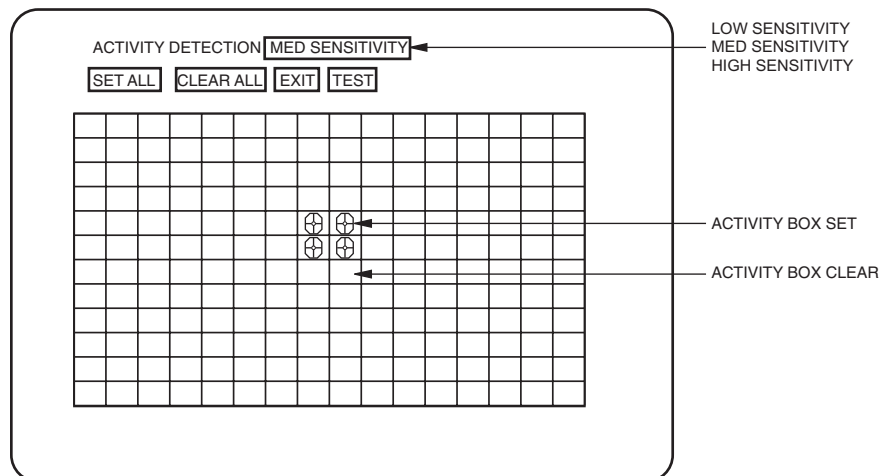

Figure 13. Activity Detection Mask
4. Press the OPEN key. The Activity Detection Mask appears (refer to Figure 13). The currently selected menu item or activity box blinks.
To turn on all activity boxes, use the joystick to choose SET ALL. Press the OPEN key. All boxes will contain a symbol as shown in Figure 13. The multiplexer will monitor motion in those boxes.